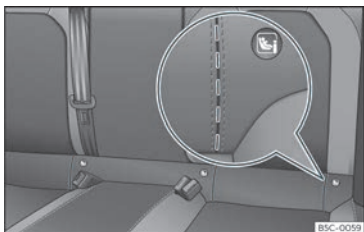

Fig. 27 Rear seat: die cut slots to access the ISO-FIX / iSize securing rings.
rings are secured to the seat frame and, in others, they are secured to the rear floor. The “ISO-FIX” rings are located between the rear seat backrest and the seat cushioning >>> **Fig. 27**. The Top Tether rings are located on the rear part of the backrests of the rear
- Open the cut-out section behind the marked grooves to access the retaining rings >>> **Fig. 27**.